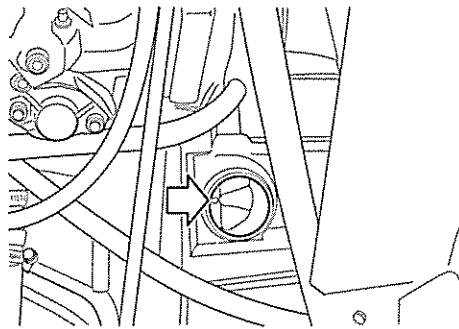

Fig 24 Gearbox - alignment markings
- 101 Markings on the converter plate and gearbox casing must be aligned (see Fig 24).